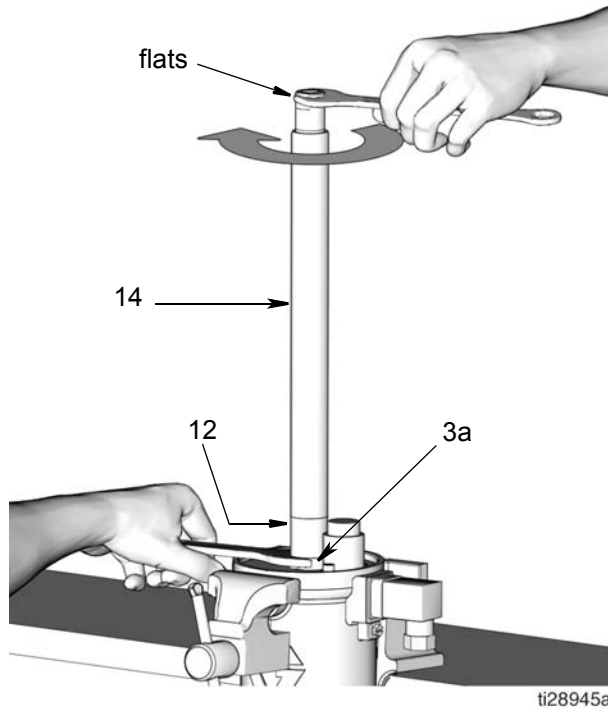

FIG. 39
18. Install outlet tube (14) on pump cylinder (12). Securely hold nut (3a) [located on the bottom of the pump cylinder (12)] in place with a wrench. Secure a second wrench on the flats of the outlet tube (14). Turn outlet tube clockwise to tighten it to the pump cylinder (12) (FIG. 39). Torque to 28 to 32 ft. lbs. (37.9 to 43.4 N.m).